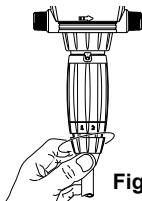

Fig. 15
- Take off the suction tube of product (Fig. 15).